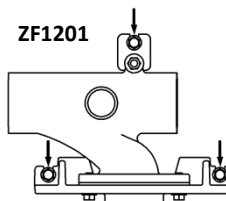

Figure 8a
- For ZF1201, see **Figure 8a**.